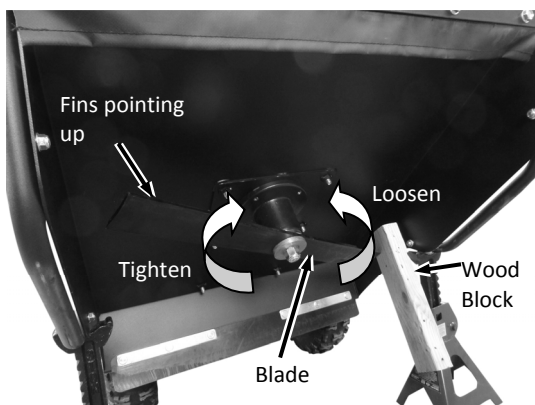

Figure 24
1. Brace the Blade with a block of wood between the Blade and the Mower Deck (Figure 24).